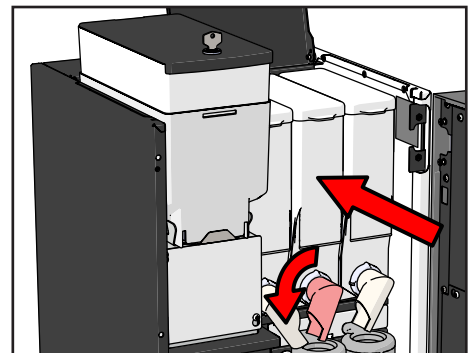

Figure 67. Replace canister
5. Replace the canisters in the machine and turn the spout downward (see Figure 67).